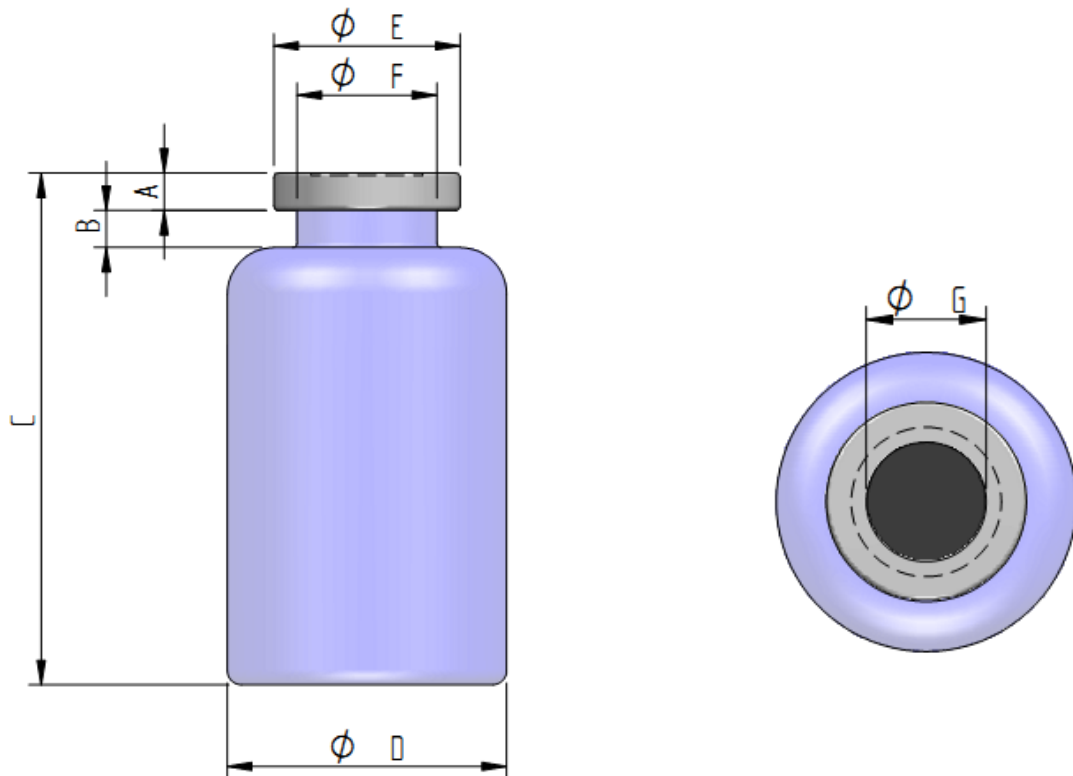

Figure 2 - Drug vials dimension range
i.v.STATION™ supports drug vials within the following dimension ranges (see Table 1 and Figure 2) dimensions other than Height, Base, Flip-off and Cap Height are only shown for illustrative purposes).